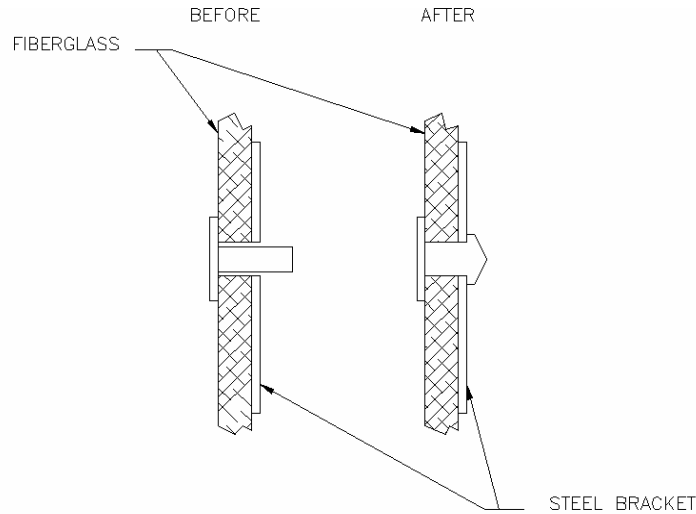

FIGURE 1
1. The rivet of a bracket to the fiberglass body where the bracket is the back up for the set rivet. Examples of these are the seat belt brackets, and seat reinforcement / threaded nut plates, body mounts, dimmer switch mounting plate, accelerator mounting plate. See figure 1 below.